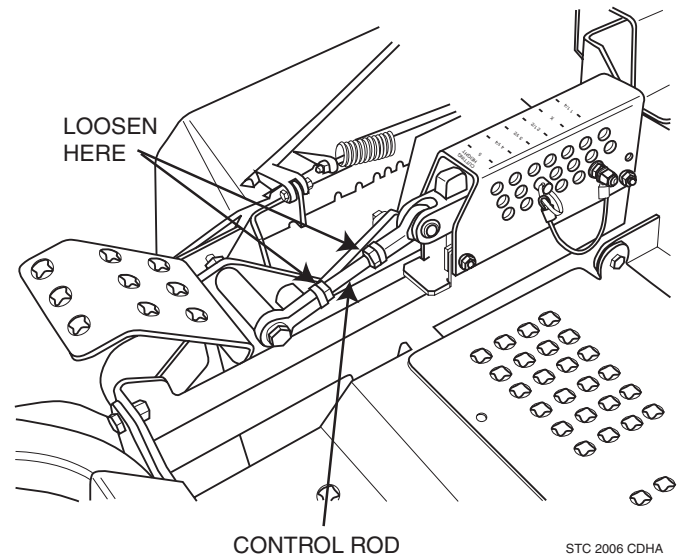
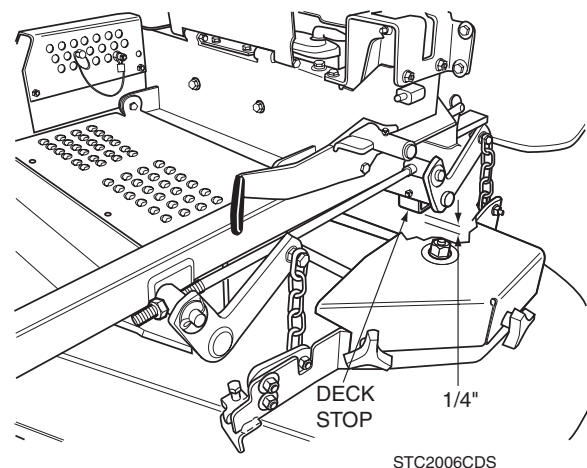

Figure 6-6. Cutter Deck Height Adjustment
Figure 6-7. Cutter Deck Stop
1. Place the cutter deck in the transport position. Loosen the jam nuts on both ends of the deck height control rod. See Figure 6-6.
2. Turn the control rod (See Figure 6-6) until there is a 1/4" space between the rear deck stop and the top of the cutter deck. See Figure 6-7. Tighten the jam nuts on the control rod.
4. Check the measurement from the floor to the cutter blade tip. If the measurement is not at 3", an adjustment can be made using the deck height control rod. See Figure 6-6.